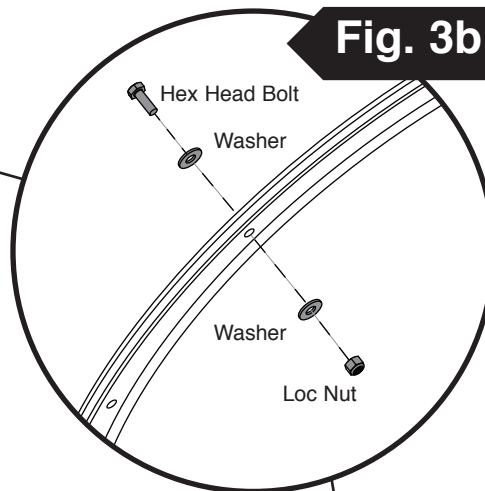

Fig. 3c
2. Align second elbow so that Hole #1 aligns with the flange opening as shown in **(Fig. 3c)** and **(Fig. 3d)** and secure in place.